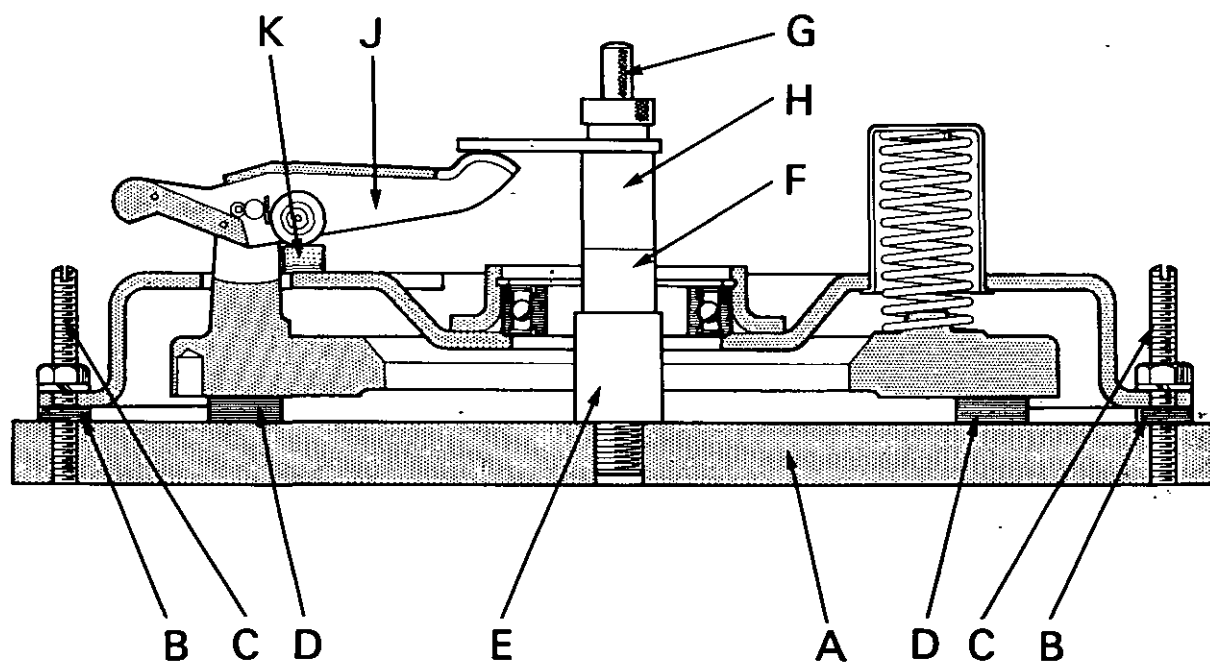

Figure 20. SETTING RELEASE LEVER HEIGHT
5. Remove actuator and screw centre pillar into adaptor. Place the Code 16X on the centre pillar — recess in spacer downwards — then fit checking finger. Set release levers, by shimming adjuster pads, so that lever tips are within 0.002 in. (0.05 mm) of gauge finger. Hold levers down firmly by hand when checking height setting and use a feeler gauge to measure the clearance between lever and gauge finger: a 0.001 in. variation in shim thickness gives 0.0045 in. variation at lever tip. (Fig. 20.)